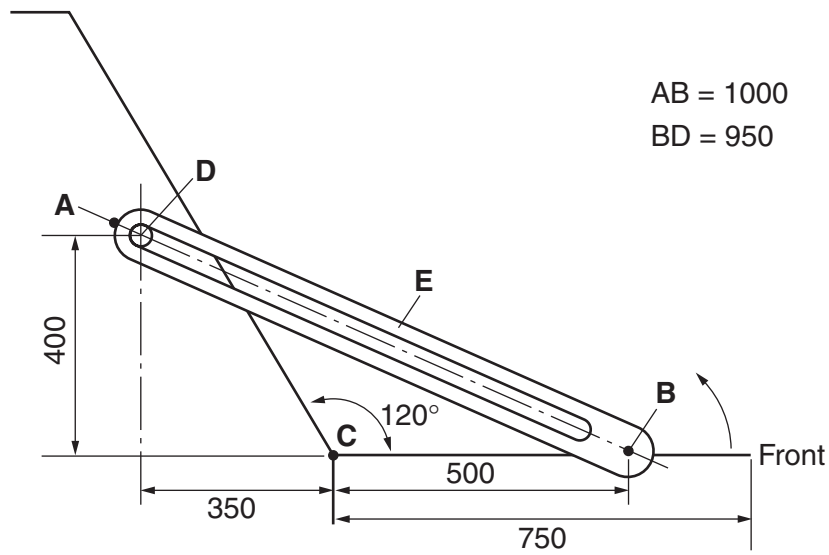

Fig. 1
- 7 Fig. 1 shows a schematic line diagram of a sliding support for a cabinet hinged front.